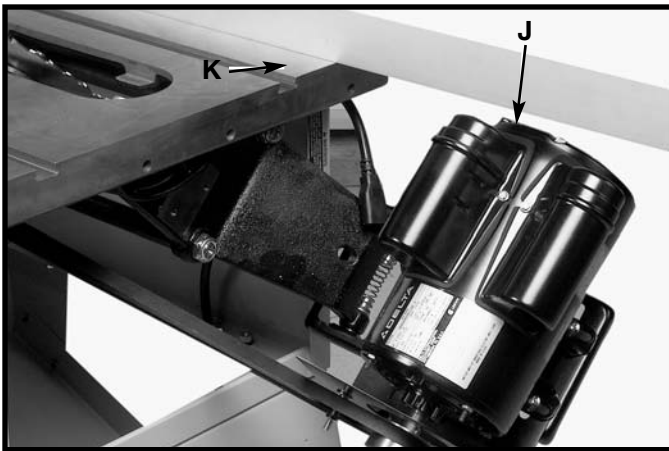

Fig. 20
8. **⚠ WARNING IMMEDIATELY AFTER ASSEMBLING THE BELT, RAISE THE SAW BLADE TO ITS MAXIMUM HEIGHT AND TILT THE SAW BLADE TO 45°. CHECK TO SEE IF THE MOTOR (J) FIG. 20 IS BELOW THE TOP OF THE TABLE SURFACE (K). IF THE MOTOR (J) IS ABOVE THE TOP OF THE TABLE SURFACE, MOVE THE MOTOR TO THE LEFT UNTIL THE END OF THE MOTOR (J) IS BELOW THE TOP OF THE TABLE SURFACE. THEN RE-ALIGN THE MOTOR PULLEY TO THE ARBOR PULLEY.**